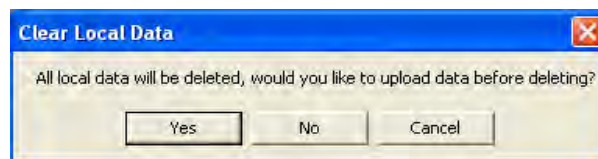

Figure 4-46: Clear Local Data Window
5. The Clear Local Data window shown in Figure 4-46 opens.